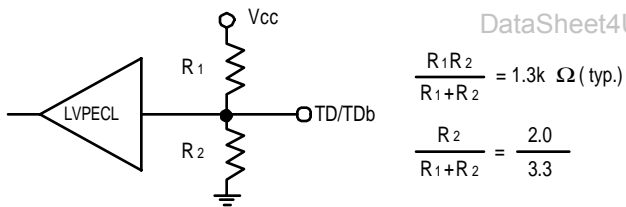

Figure 13. Internal Bias of Input Terminal
6. Input Terminal is biased internally, as shown in the figure 13.